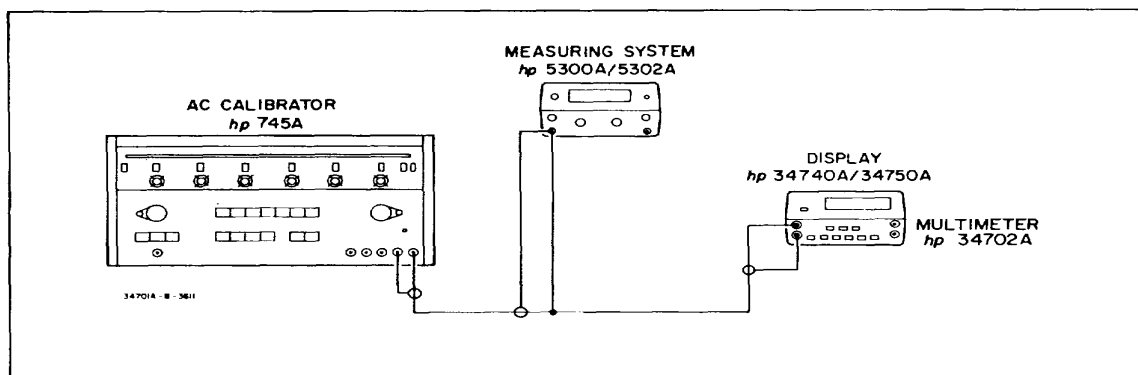

Figure 5-3. Normal Mode Rejection.
- Disconnect all previous connections to the 34702A input and connect the equipment as shown in Figure 5-3. Set the Model 34702A to DCV and the 1 V range.